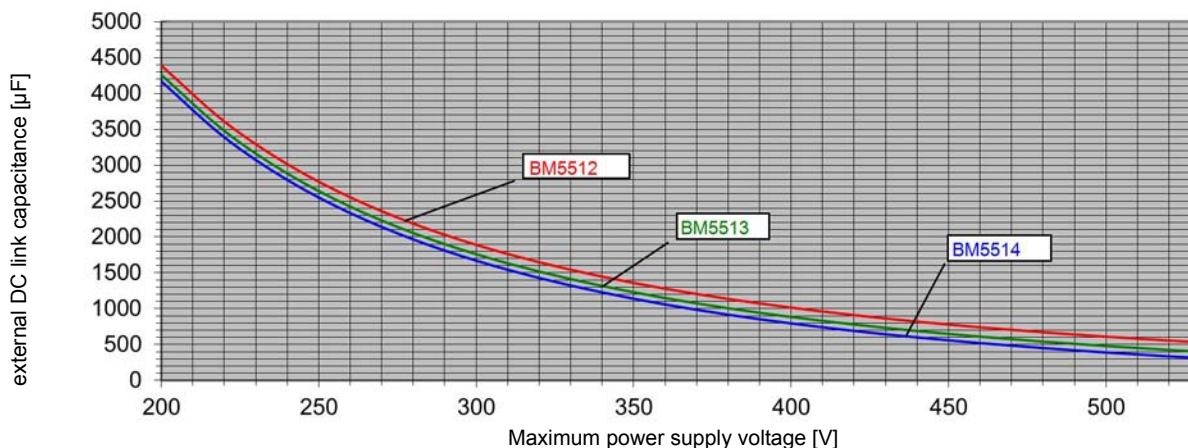

Figure 34: Maximum external DC link capacitance BM551X universal units
DC link capacitance (external), permitted	Refer to ▶Figure 34◀ on page 62
- 8) The specified value is only valid if there is no additional DC link capacitance connected to the DC link terminals. Refer to ►Power on switching frequency / DC link charging◄ on page 219 and ►Figure 34◄ on page 62.